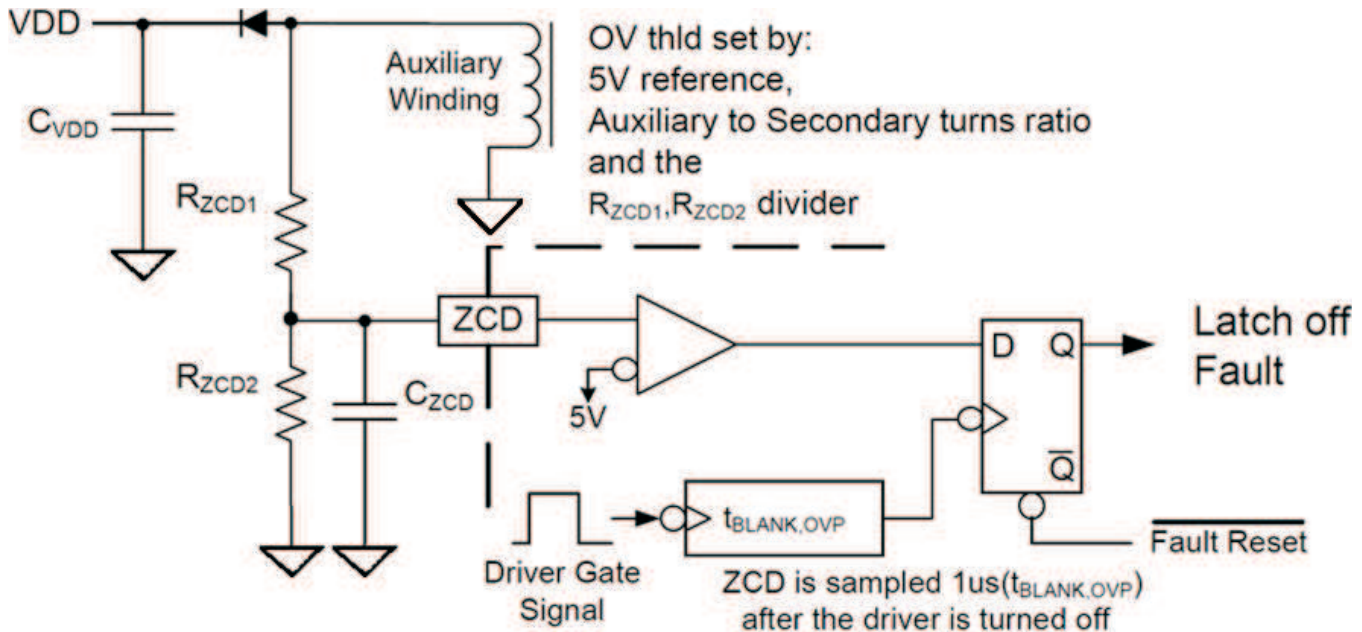

Figure 34. Output Over-Voltage Protection with ZCD Pin
The output over-voltage (OV) threshold is set using the turn ratio of the auxiliary winding to the output secondary and a resistive divider into the ZCD input pin. The UCC28610 will always enter a latched-off state if it detects an OV condition. The VDD supply must cycle below the fault reset threshold to re-start in order to recover. The functionality of the over-voltage detection function is shown in Figure 34.